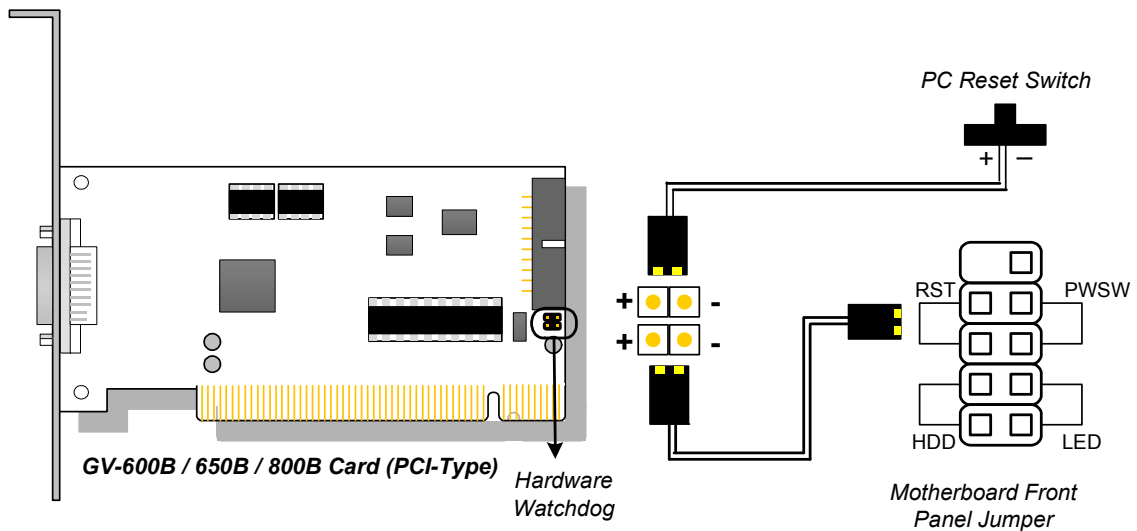

Figure 1-51
- Connect the supplied Hardware Watchdog Jump Wire (Figure 1-51).
- **Hardware Watchdog Connection:** Connect the supplied Hardware Watchdog Jump Wire to the Master Card only (Figure 1-51).